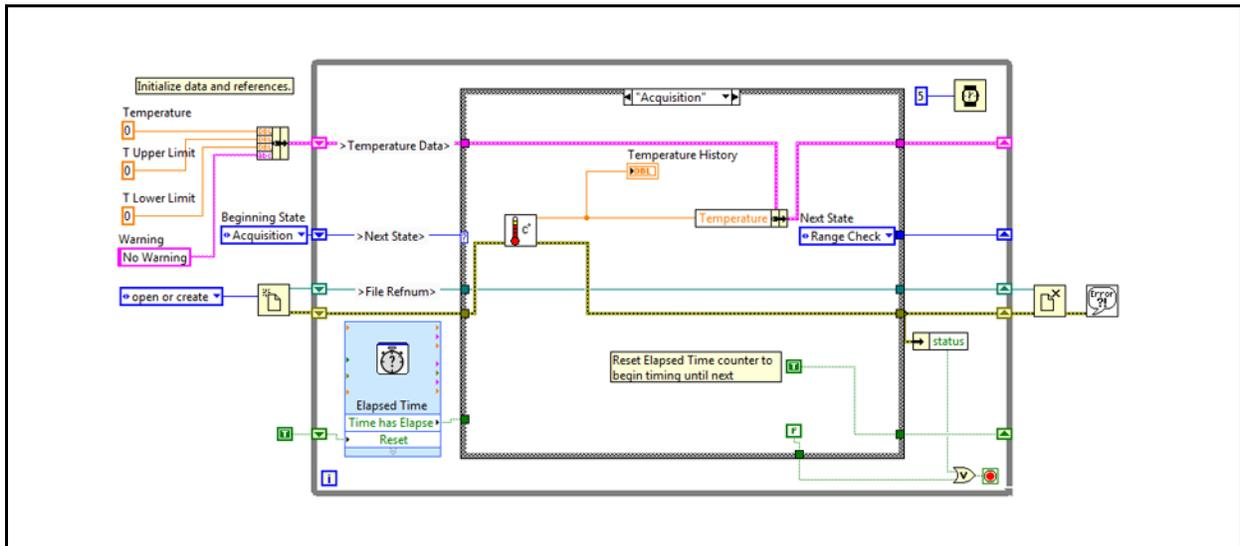

Figure 1. Completed Acquisition State
3. Read the upper and lower limit controls in the Range Check state, instead of the Acquisition state, as shown in Figure 1.
- Resize the **Bundle by Name** function to one element, as shown in Figure 1.